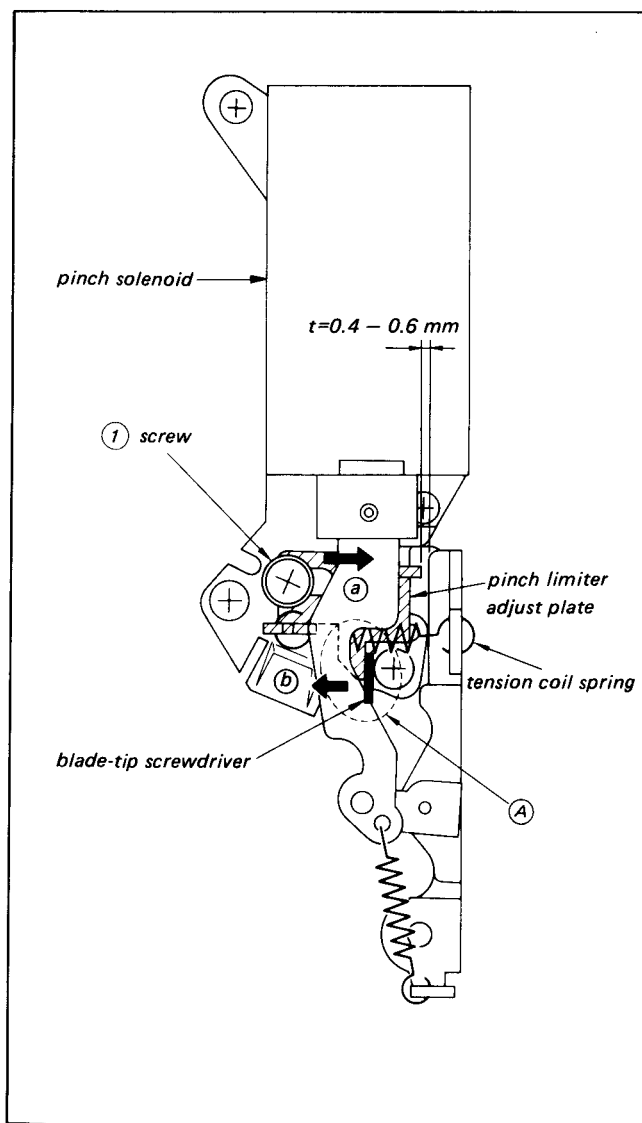

Fig. 3-28. Pinch Press Limiter Clearance Adjustment
- 2) Check that the clearance "t" of the pinch press limiter in Fig. 3-28 is 0.4 — 0.6 mm. If not, adjust as follows:
- 1) Loosen screw ① in Fig. 3-28 with the pinch solenoid held in.
- 3) Push the pinch limiter adjust plate in the direction of arrow (b) as shown at section (A) using a blade-tip screwdriver, until the clearance "t" is 0.4 — 0.6 mm.